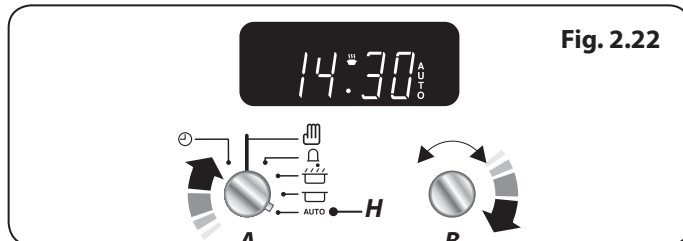

Fig. 2.22
3. Continue to turn the **Adjusting (B)** knob to the amount of time required e.g. 1 minute. The display will show the current time plus the required length of time you have set (**Fig. 2.22**).
4. Turn the **Timer (A)** knob to the **Auto (H)** setting. The display will show the current time, the Cooking symbol and the word '**AUTO**' (**Fig. 2.22**).